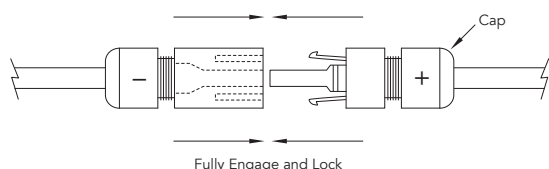

Figure 7: Connector of the plugs
Yingli Solar GG modules are provided with two (2) stranded, sunlight resistant output cables that are terminated with PV connectors ready for most installations. The positive (+) terminal has a female connector while the negative (-) terminal has a male connector. The module wiring is intended for series connections [i.e. female (+) to male (-) interconnections, see Figure 7], but can also be used to connect suitable third-party electrical devices that may have alternative wiring configurations so long as the manufacturer’ s instructions are followed.